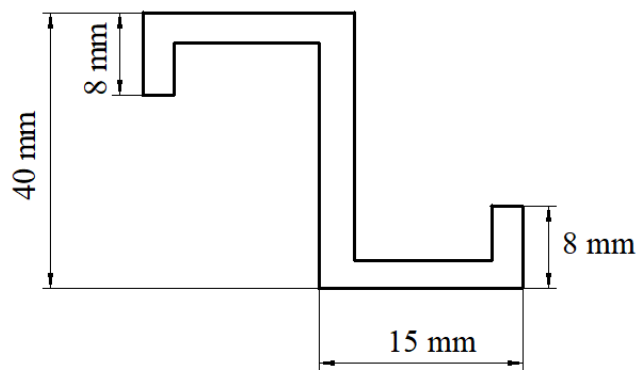

Figure 6b
b) Calculate the crippling stress for the given extrusion section shown in the figure 6b using the Gerard method. Assume  $E=75\text{GPa}$  and the yield stress is 280 Mpa. Thickness of the section is 1.5 mm.